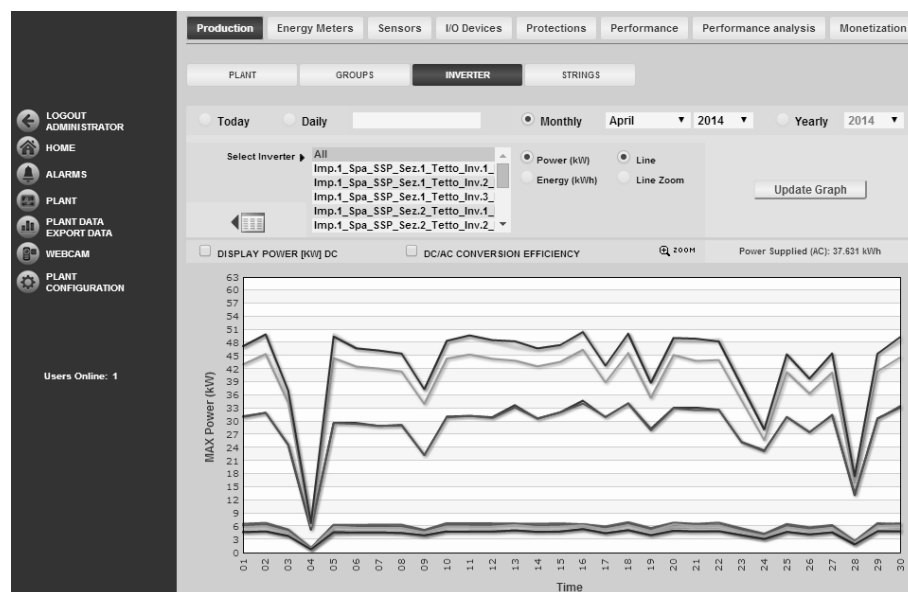

Figure 131 – energy monthly trend
- **Monthly:** shows the energy produced each day in the selected month as the difference of the maximum value and the historical minimum value in a quarter hour by eSolar for each day. For the selection of the month use the specific calendar and press View Charts. Vedi Figure 131.